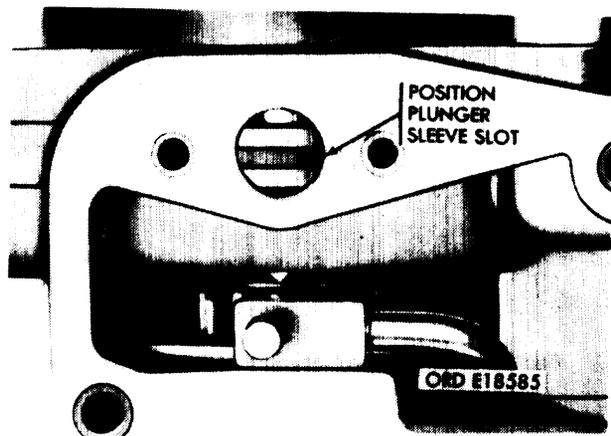
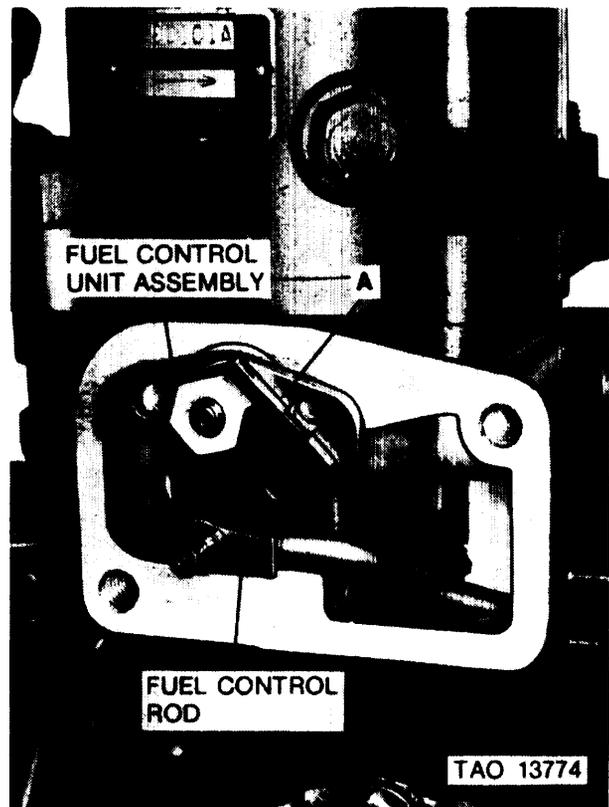

Figure 3-148. Location of plunger sleeve slot.
Figure 3-149. Correct installation of control unit in plunger sleeve dot.
a. Refer to figure 3-148. Position plunger sleeve slot at bottom of travel, as shown, by pressing down on sleeve. The fuel control unit lever must be in an idle position before inserting plunger sleeve pin into plunger sleeve slot.
b. Refer to figure 3-149. Install fuel control unit assembly with new preformed packing, so that plunger sleeve pin (A, fig. 3-47) engages plunger sleeve slot (fig. 3-148). To check for engagement operate lever back and forth. Lever should move through about a 500 angle between and below retainer mounting holes. If this movement occurs, pin is engaged in sleeve slot. If not, remove and reinstall control unit and engage plunger sleeve pin in plunger sleeve slot.